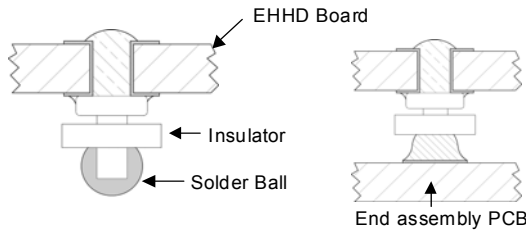

Figure 23. Column Pin Connector Before and After Reflow Soldering .
The surface mountable modules in the EHHD family use our newest SMT technology called “Column Pin” (CP) connectors. Figure 23 shows the new CP connector before and after reflow soldering onto the end-board assembly. The CP is constructed from a solid copper pin with an integral solder ball attached, which is composed of tin/lead (Sn/Pb) solder for non-Z codes, or Sn/Ag₃/Cu (SAC) solder for –Z codes.